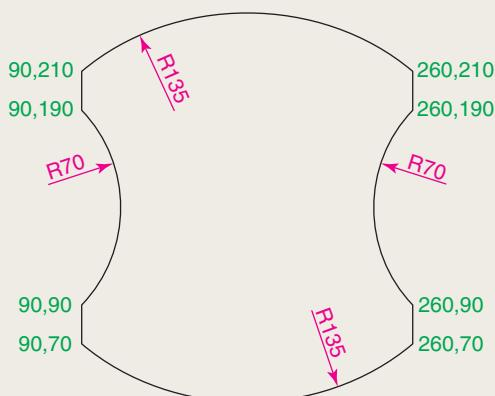

Fig. 3.46 Exercise 2
2. With the **Line** and **Arc** tools, construct the outline Fig. 3.46.